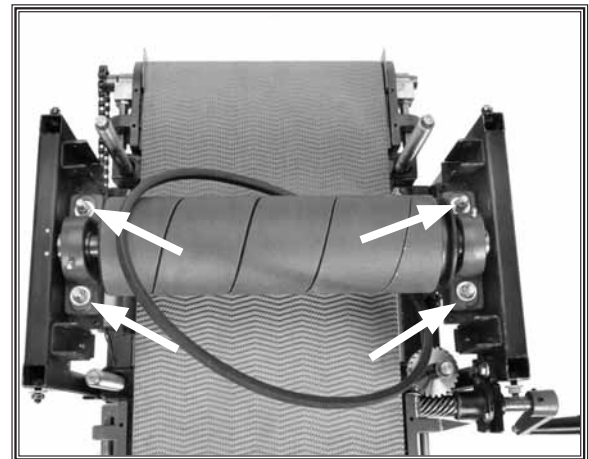

Figure 46. Locations to remove sanding drum retaining nuts.
9. Remove the sanding drum (four lock nuts and four flat washers) and V-belt (**Figure 46**).